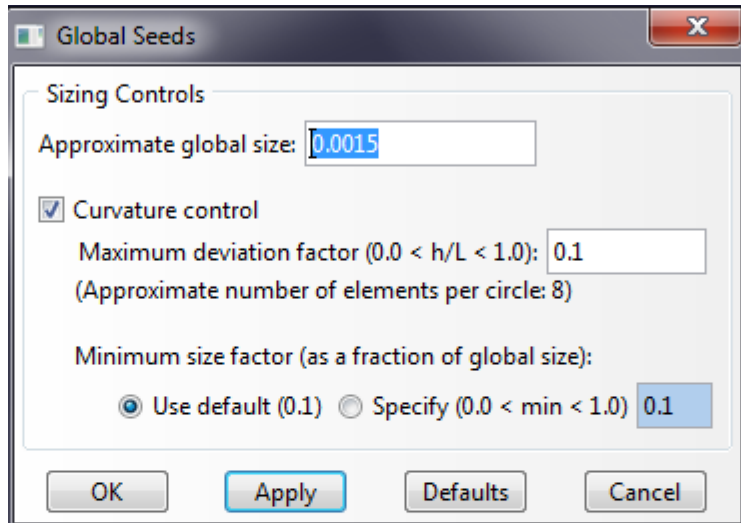

Figure 14
- Under the Seed menu (top of screen) select Part and enter an Approximate Global Size of 0.0015 as in Figure 14